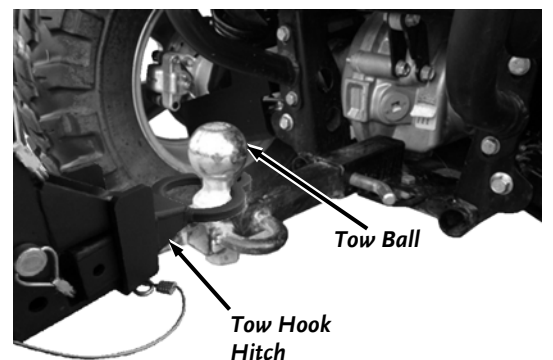

Figure 30
2. Lift the Tow Bar and position the Tow Hook Hitch over the Hitch Ball on the ATV (**Figure 30**). Pull back on the Power Grader so the slot in the Keyhole Hitch fits around the Hitch Ball Shaft.